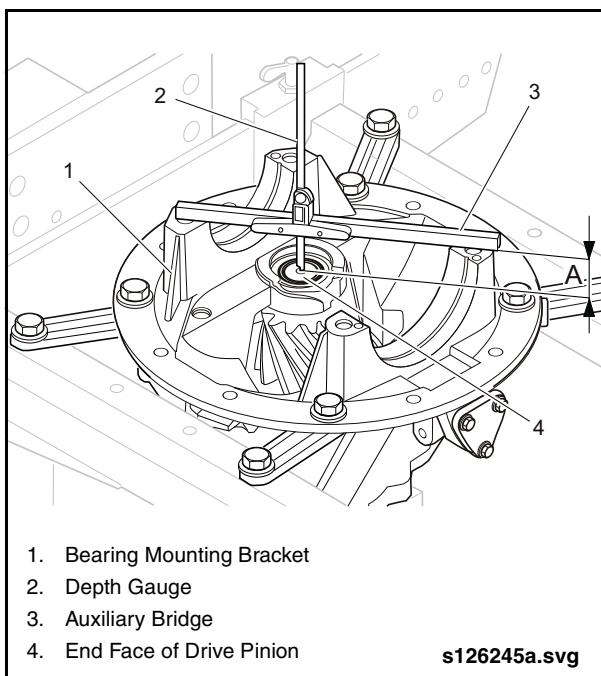

Fig. 2-84: Pinion Depth
3. Place the depth gauge with auxiliary bridge across the bearing mounting brackets. See "Fig. 2-84: Pinion Depth" on page 71.